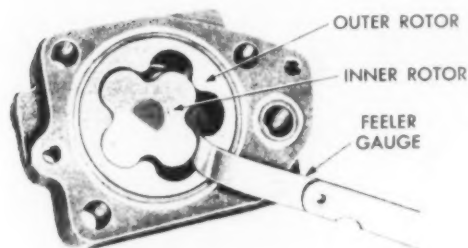

Fig. 13—Measuring clearance between rotors (Chrysler).
10.—If clearance between inner rotor and outer rotor (Fig. 13) is more than .010", replace the inner and outer rotors.